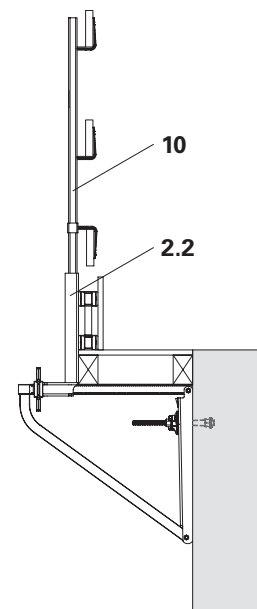

Fig. A2.05
- Insert Guardrail Post HSGP-2 (**10**) into prop (**2.2**) and fit the guardrail. (Fig. A2.05)